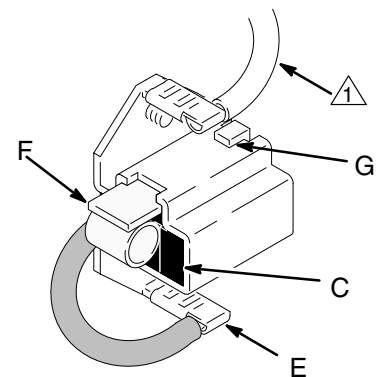

Fig. 16
8. Holding the spring clip (F) at a slight angle, slide the spring clip into the brush holder and hook it over the end of the holder. See Fig. 16. Pull on the spring clip to be sure it stays in place.